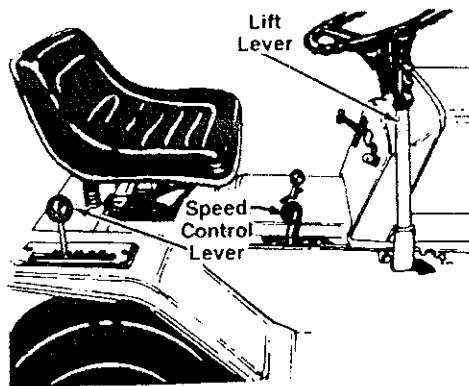

FIGURE 10
The speed control lever is located either on the console or on the fender. See figure 10. The speed control lever allows you to regulate the ground speed of the lawn tractor. To select the ground speed, depress clutch pedal. Push speed control lever outward and move backward to slow lawn tractor, move forward to increase speed. When desired speed has been
NOTE: The lift lever must be in the disengaged position when starting the engine, when shifting into reverse and if the operator leaves the seat. See figure 10.
3. **Models without electric clutch:** Place the lift lever in the DISENGAGED position. See figure 10